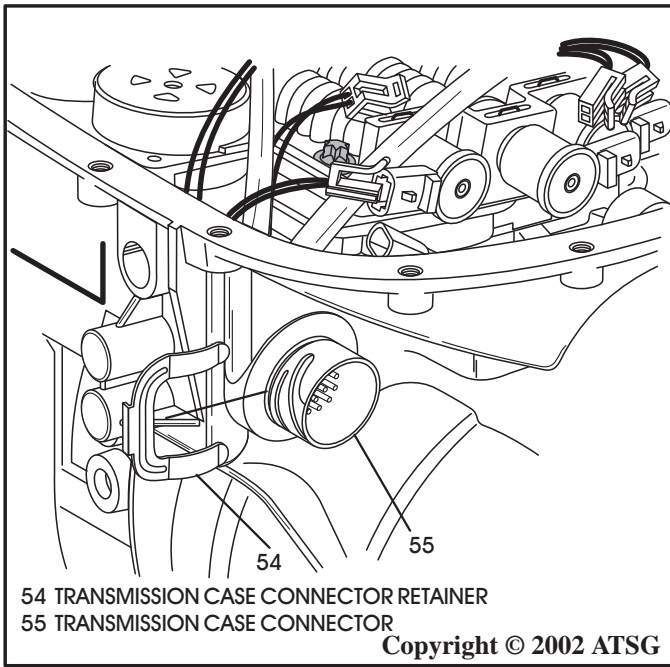

Figure 203
11. Install the case connector through the case bore and while holding the connector, install the retaining clip, as shown in Figure 203.